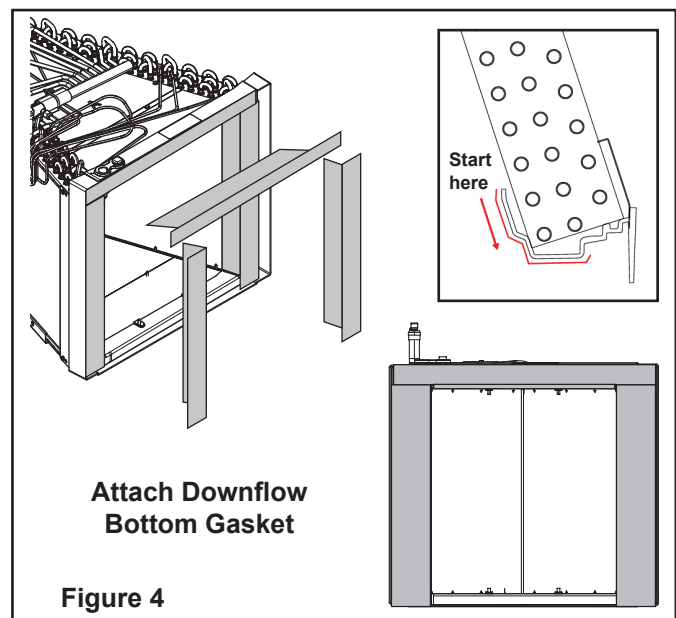

Figure 4
- Attach the 4" gasket material to three sides of the bottom of the drain pan as shown in Figure 4. Make sure to start by matching up the edge of the gasket material to the inner edge of the drain pan by the coil fins and working outwards.
- The gasket material can be cut or ripped easily so that it can be tailored to fit. The gasket material must cover the three sides along the entire length of the coil as shown in Figure 4.